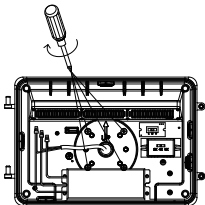
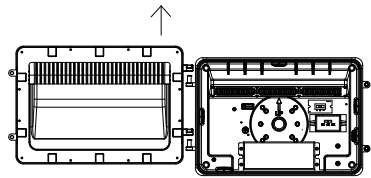

Figure 6
Figure 2
6. Install the back shell on the mounting seat with screws, Connect the L, N and G wires to the power supply as per Figure 1 and Figure 2. (Figure 6)
3. Open the fixture, and remove the light engine of the fixture. (Figure 2)